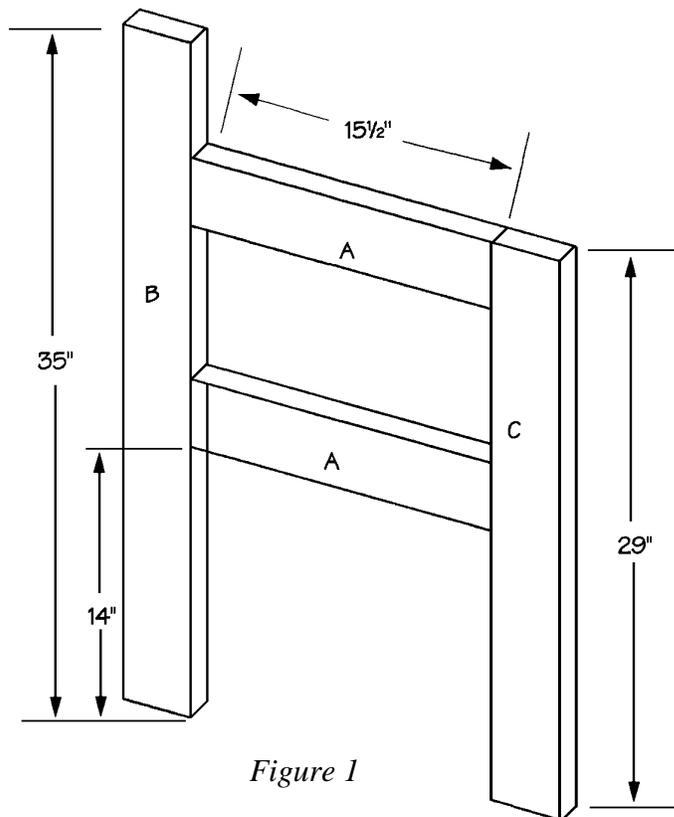

Figure 1
1. Cut four Horizontal Sides (A) from 2 x 4 pine, each measuring 15-1/2 inches long.
2. Cut two Long Vertical Sides (B) from 2 x 4 pine, each measuring 35 inches long.
3. Cut two Short Vertical Sides (C) from 2 x 4 pine, each measuring 29 inches long.
4. Place two Horizontal Sides (A) parallel to each other, and between one Long Vertical Side (B) and one Short Vertical Side (C), as shown in *Figure 1*. The top Horizontal Side (A) is exactly even with the end of the Short Vertical Side (C), and the bottom Horizontal Side is 14
inches from the other end of that same Vertical Side (C), as shown in *Figure 1*. Apply glue to the meeting surfaces, and screw at an angle through the edges of the Horizontal Sides (A), into both the long and Short Vertical Sides (B and C), using two 3-1/2" wood screws on each joint.